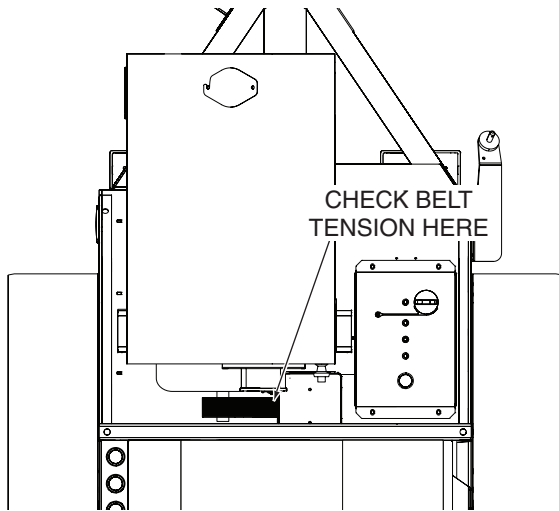

Figure 5-1. Impeller Drive Belt Tension
2. Check the belt tension by using a belt tension gauge. The belt should move 1/2" with 14 pounds of pressure applied. See Figure 5-1.